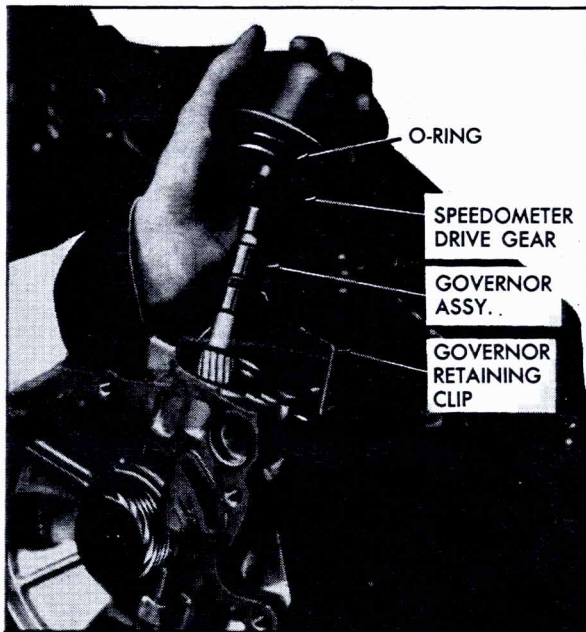

Fig. 7-154 Removing Governor Assembly
2. Remove governor assembly from case, and remove square-cut O-ring from governor assembly and discard O-ring, Fig. 7-154.